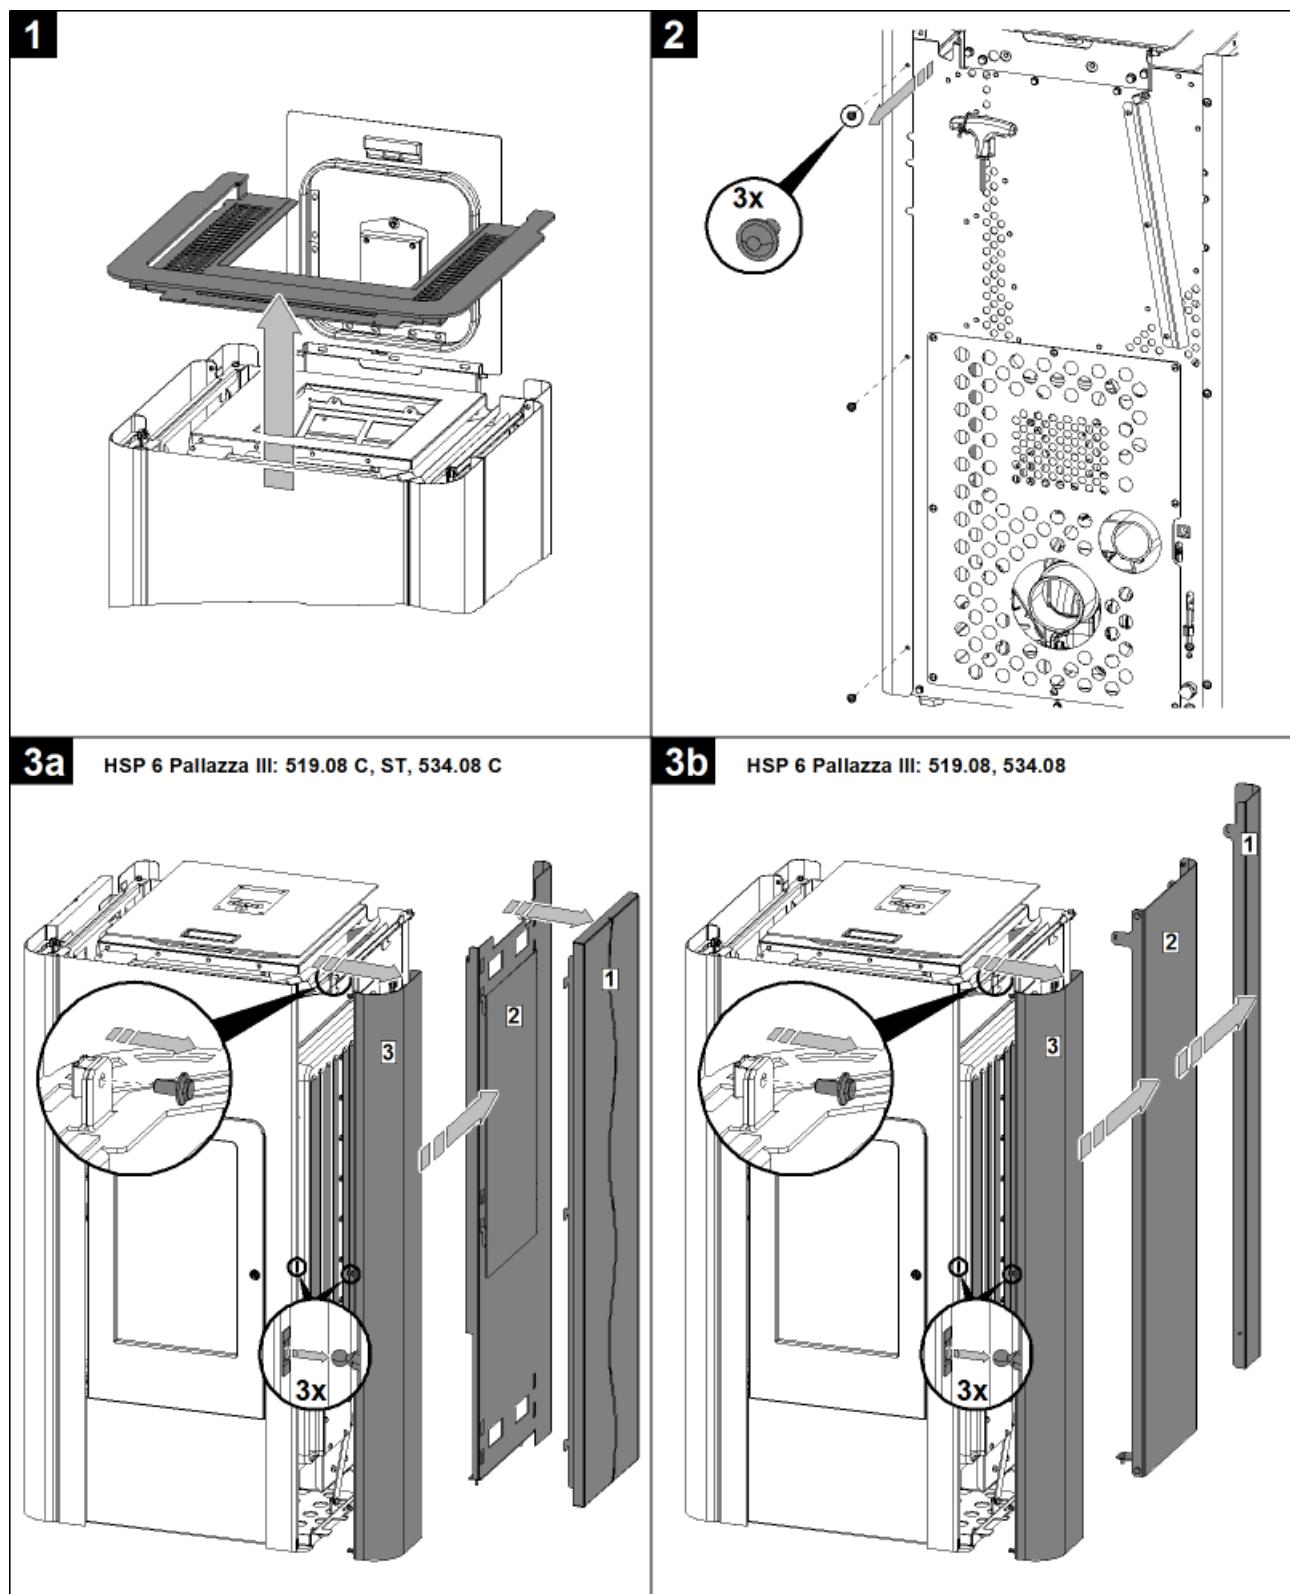

Figure 3a: Removing the side wall
- Carry out the cleaning as pr the Fig. 3a+3b.